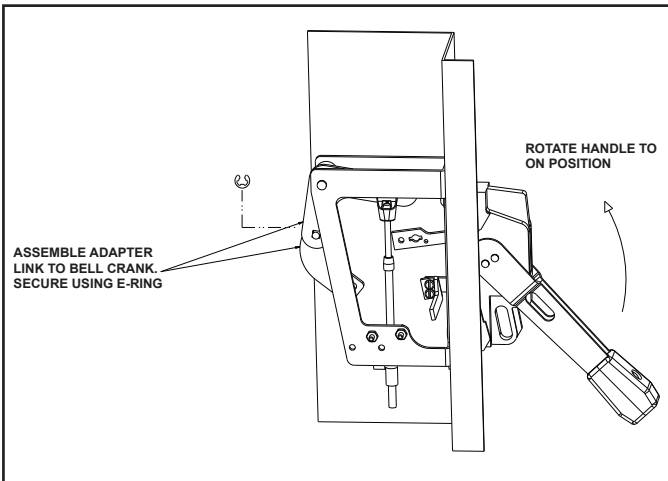

Fig. 1-4 Assembly of Adapter Link to Bell Crank.
4. Insert the adapter link into the pin of the bell crank via the largest hole on the link. See Fig. 1-4. Secure the adapter link by inserting the E-ring into the slot on the bell crank pin.